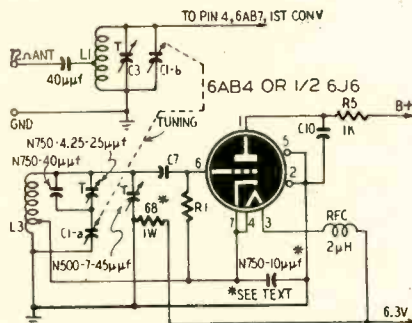

Fig. 1—G-E JFM-90 circuit revisions.
A. Fig. 1 shows the changes which may be made in the front-end of the JFM-90 tuner and similar G-E receivers to permit operation on the FM broadcast band. Coded components have the same values and occupy the same positions as in the manufacturer's schematic.